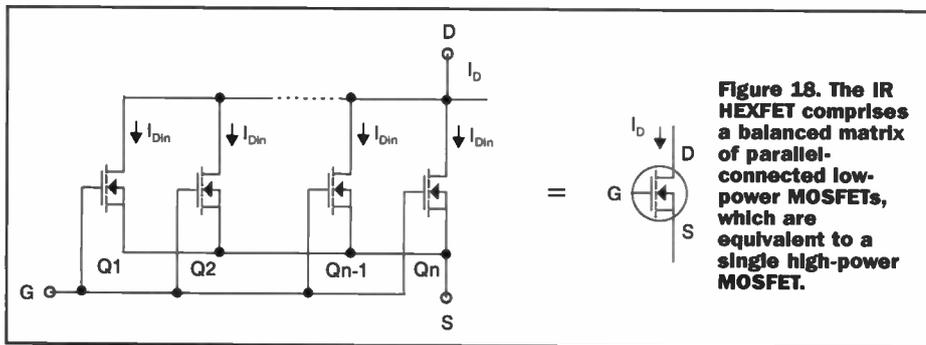

Figure 18. The IR HEXFET comprises a balanced matrix of parallel-connected low-power MOSFETs, which are equivalent to a single high-power MOSFET.
One International Rectifier (IR) solution to the power MOSFET problem is a device which, in effect, houses a vast array of parallel-connected low-power vertical MOSFETs or 'cells' which share the total current equally between them and thus act like a single high-power MOSFET, as indicated in Figure 18. These devices are named HEXFET, after the hexagonal structure of these cells, which have a density of about 100000cm² of semiconductor material.